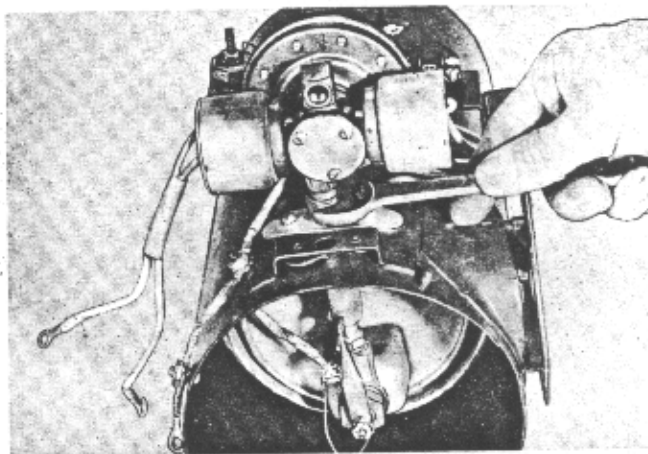

Figure 35
3. Loosen compression nut on standpipe (Figure 35) until fuel valve is free, and lift valve off.